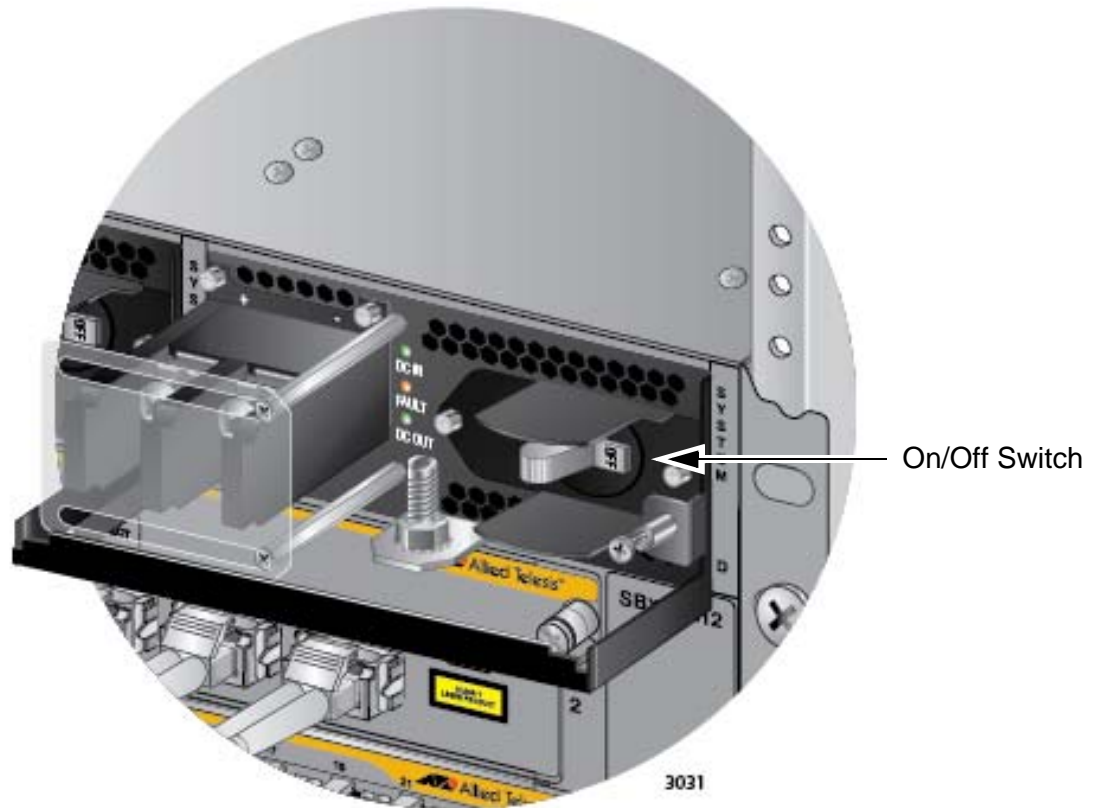

Figure 122. On/Off Switch on the AT-SBxPWRSYS1 DC Power Supply
3. Verify that the On/Off switch on the AT-SBxPWRSYS1 DC Power Supply is in the Off position. Refer to Figure 122 on page 189.
13. Turn the On/Off switch on the power supply to the On position. See Figure 122 on page 189.
2. Verify that the On/Off switch on the AT-SBxPWRSYS1 DC Power Supply is in the Off position. Refer to Figure 122 on page 189.
12. Turn the On/Off switch on the power supply to the On position. See Figure 122 on page 189.
11. Turn the On/Off switch on the power supply to the On position. See Figure 122 on page 189.